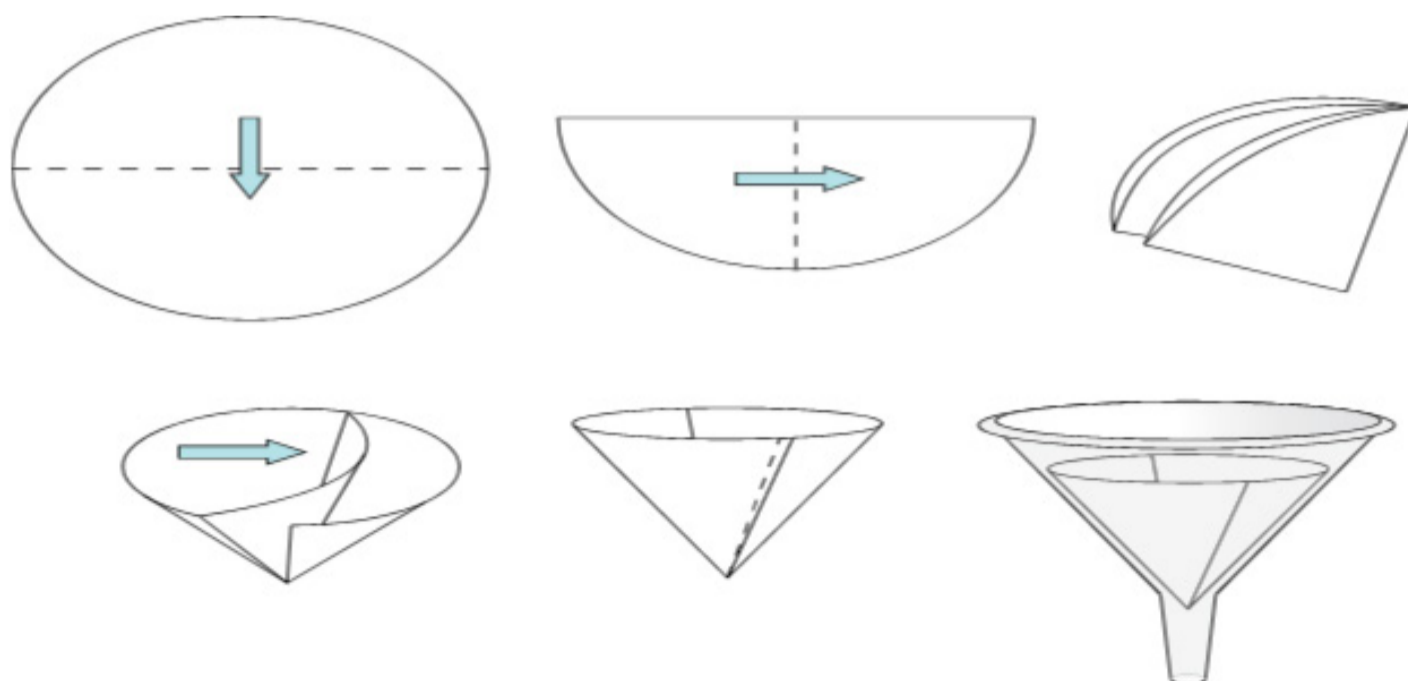

Figure 3: Step-by-step process of folding the filter paper so that it will fit into the funnel.
- 12. Allow your solution of iron (II) acetate to cool down. This should take approximately 2–5 minutes.
- 13. Observe and record the color of the iron (II) acetate solution in Table 3 on the Experiment 1 Data Sheet.
- 15. Prepare a filtering funnel as shown in Figure 3. Fold the filter paper in half twice to make four quarters. Place the paper in the funnel so that three quarters are open on one side and one quarter is on the opposite side. Seat the filter paper into the funnel by moistening the paper with a small amount of tap water. **Key Technique**
- 17. Filter the iron (II) acetate solution into the 250 mL Erlenmeyer flask, leaving the steel wool in the funnel. Place the 500 mL beaker aside.